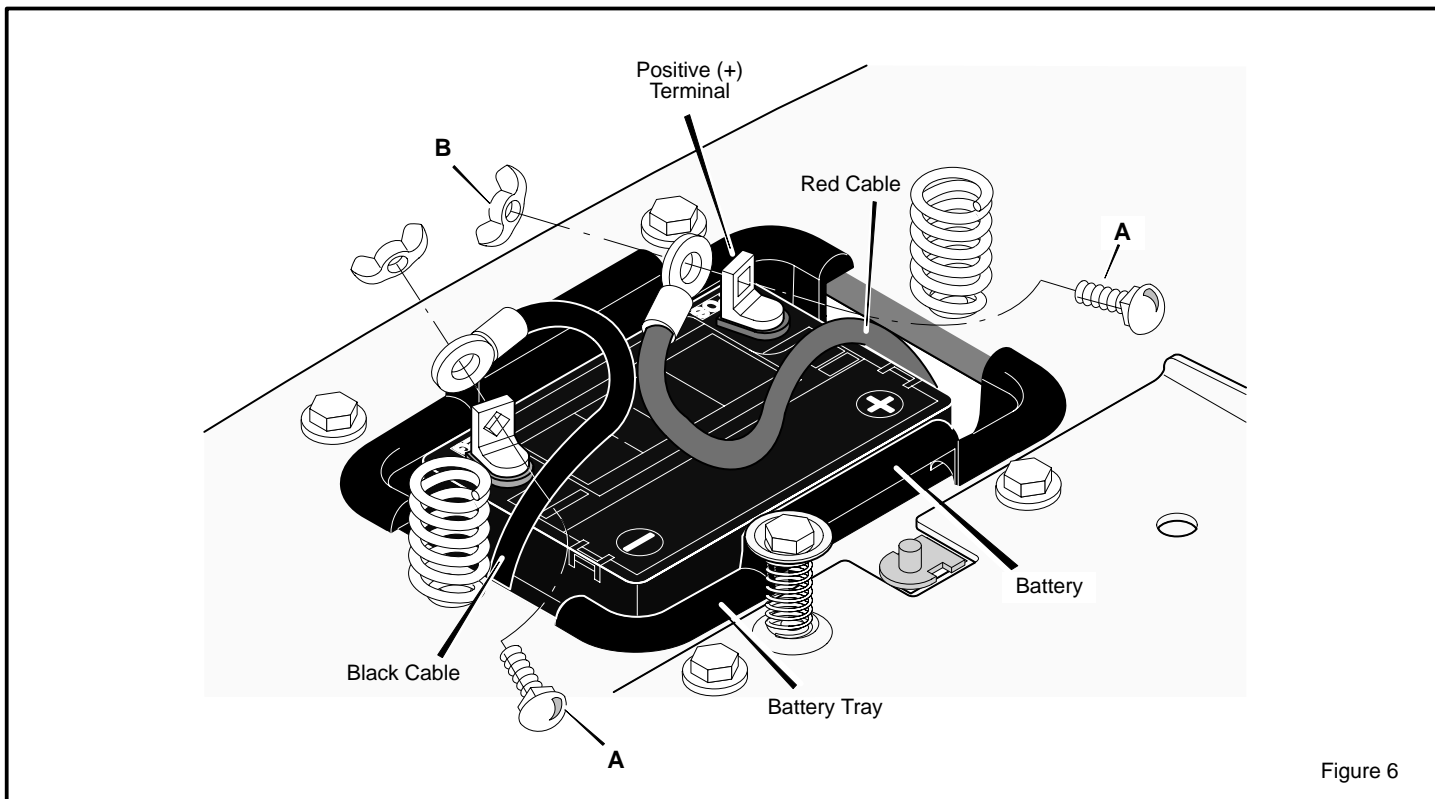

Figure 6
1. Check the top of the battery for the location of the **battery date** (Figure 6).
2. Fasten the **red cable** to the **positive (+) terminal** with the fasteners as shown (Figure 6).